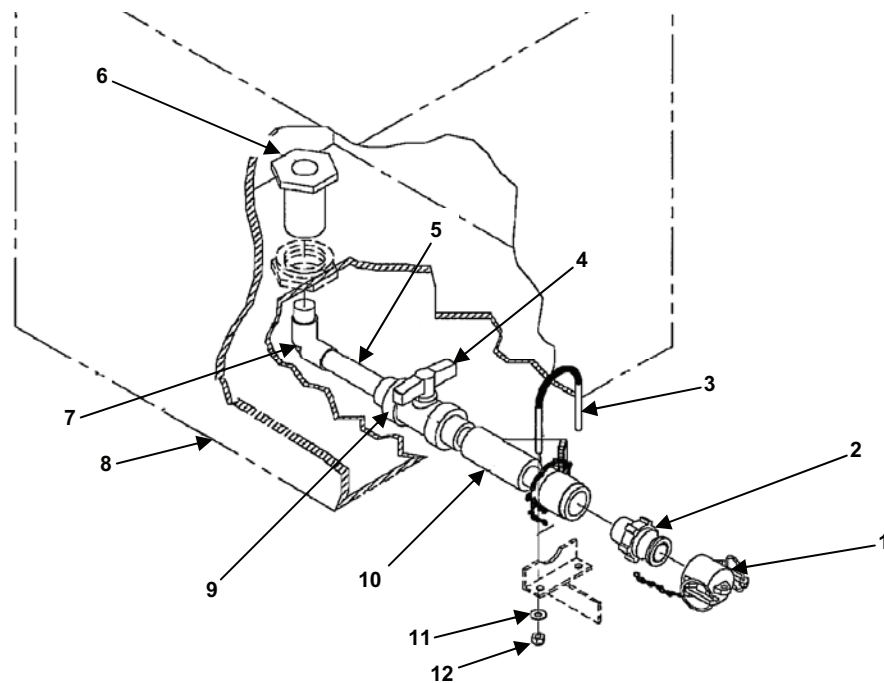

Figure 4. Cleaning Tank Outlet Piping.
1. The cleaning tank outlet piping is located beneath the cleaning tank (Figure 4, item 8).
2. Loosen union (Figure 4, item 9) on the valve (Figure 4, item 4).
3. Remove nuts (Figure 4, item 12), washers (Figure 4, item 11) and remove the U-bolt (Figure 4, item 3).
4. Remove all components up to valve (Figure 4, item 4) from the module.
5. Remove the piping (Figure 4, item 5), if necessary, by unthreading the bulkhead fitting (Figure 4, item 6) from the adapter (Figure 4, item 7).
6. Remove Y-strainer (Figure 4, item 10) if necessary.
1. Refer to Figure 4 for this procedure section.
2. Install piping (Figure 4, item 5) on bulkhead fitting (Figure 4, item 6).
3. Install valve (Figure 4, item 4) on the piping (Figure 4, item 5). Tighten union (Figure 4, item 9).
4. Install Y-strainer (Figure 4, item 10) if removed.
5. Install U-bolt (Figure 4, item 3) and secure with nuts (Figure 4, item 12) and washers (Figure 4, item 11).
6. Install male camlock (Figure 4, item 2) and dust cap (Figure 4, item 1) if removed.